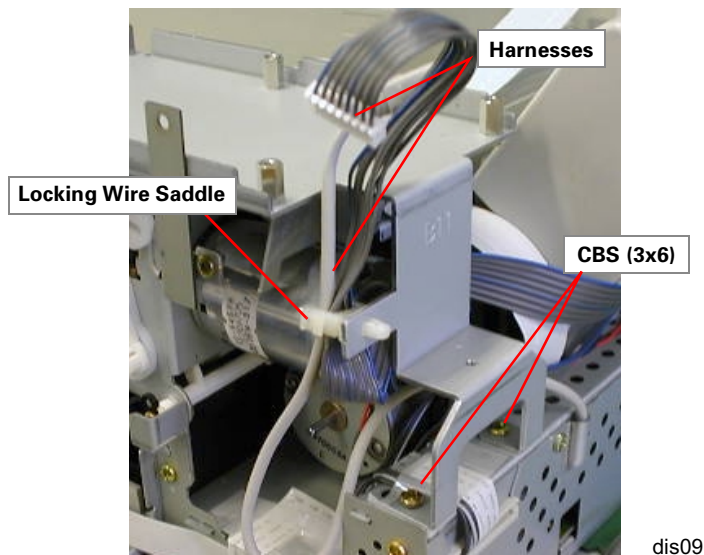
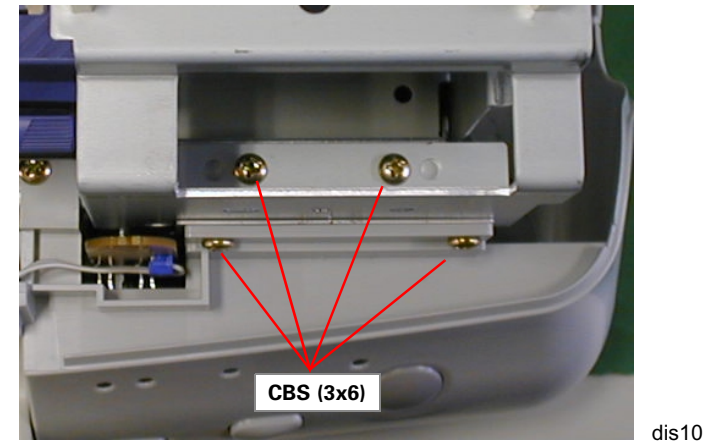

Figure 4-8. C364MAIN Board Removal (1)
Figure 4-9. C364MAIN Board Removal (2)
4. Remove the four screws (CBS, 3x6) securing the C364MAIN Board Unit. (See Figure 4-8 and Figure 4-9.)